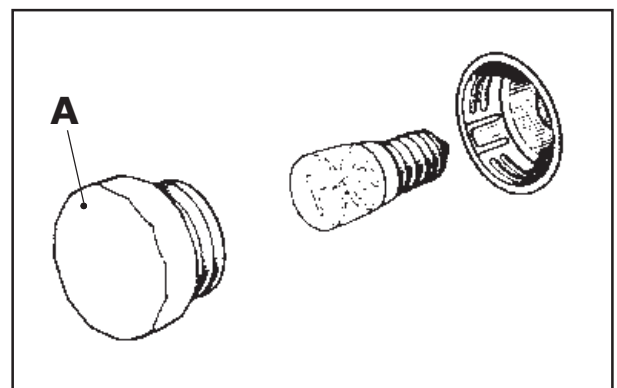

Figure 6
Unscrew the protective cap (A - Fig. 6) which sticks out of the inside of the oven to provide access to the lamp. Immediately after the bulb has been changed, remount the protection cover (A).